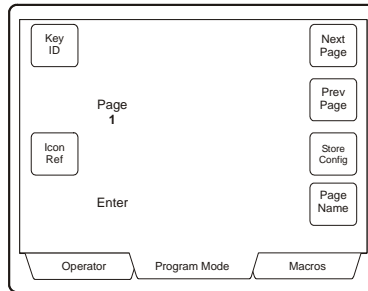

Figure 4.2: Configure Macro Menu
3. Press the MACRO CONFIG soft key. The configure macro menu will be displayed (figure 4.2).
When the title is complete, press the ENTER soft key. The text editor menu will close and the display will return to the configure macro menu (figure 4.2).
1. From the configure macro page (figure 4.2), press the STORE CONFIG soft key.